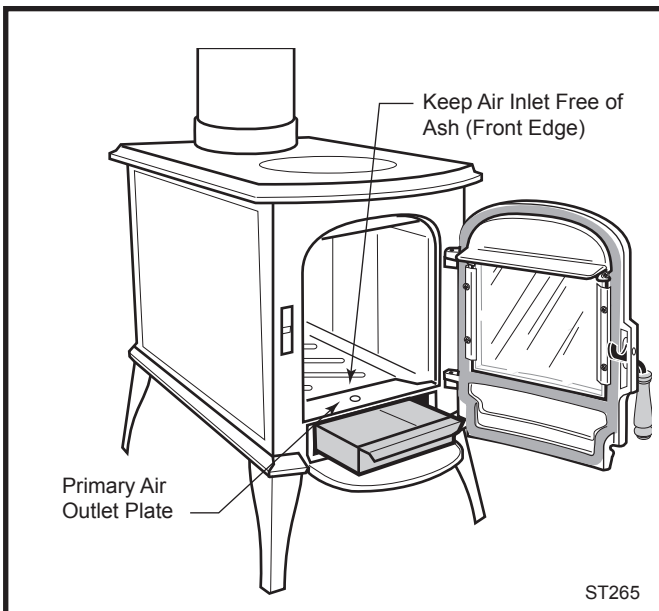

Fig. 31 Primary air outlet - keep clear of ash and charcoal accumulation.
- Step 3. Use a fireplace tool to break up the charcoal and direct ash through the grate. Pull the charcoal from the back to the front. This will encourage efficient combustion as the fuel burns from front to rear. (Fig. 31)
IMPORTANT: A critical source of air into the Aspen firebox is located in front of the ash grate as shown in Figure 31. If this air slot becomes plugged with ash, a sluggish, cool fire and dirty glass will result. Keep this air slot clear of ash. Refer to the Maintenance section for instructions to more thoroughly clean ash from beneath the primary air plate.